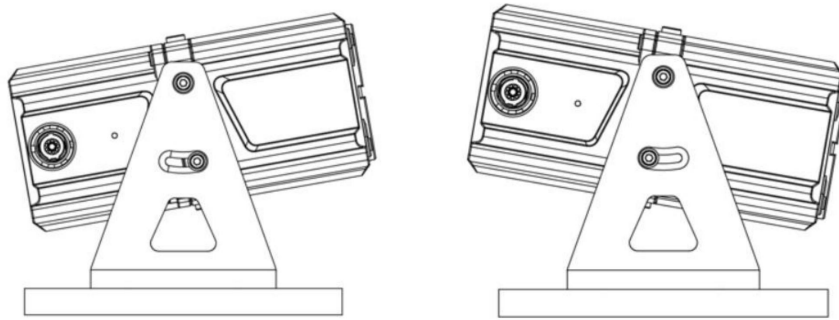

Figure 5 Angle Adjustment Diagram
Step 2: Adjust the angle. Loosen the four locking screws on the left and right sides of the bracket, and adjust the vertical angle of the product to the desired position, with an adjustable range of  $-10^{\circ}$  to  $10^{\circ}$ . The detailed adjustment instructions are shown in Figure 5.
Step 1: Loosen the four screws on the left and right sides of the bracket and dismount the Spike-BF. See Figure 5.